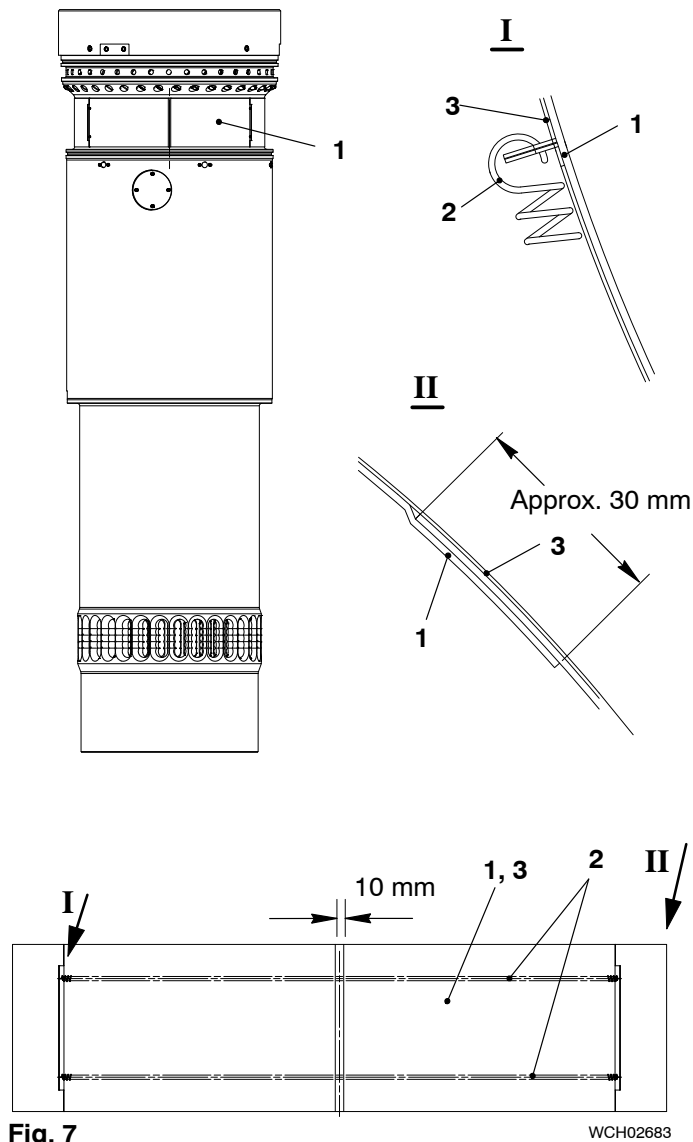

Fig. 7
- 2) Use the assembly tool (94233) to remove all the tension springs (2) of the insulation bandage (1, Fig. 7).
- 3) Remove the plate (3).
- 4) Remove insulation bandage (1).
- 1) Put the insulation bandage (1, Fig. 7) around the water channel on the cylinder liner.